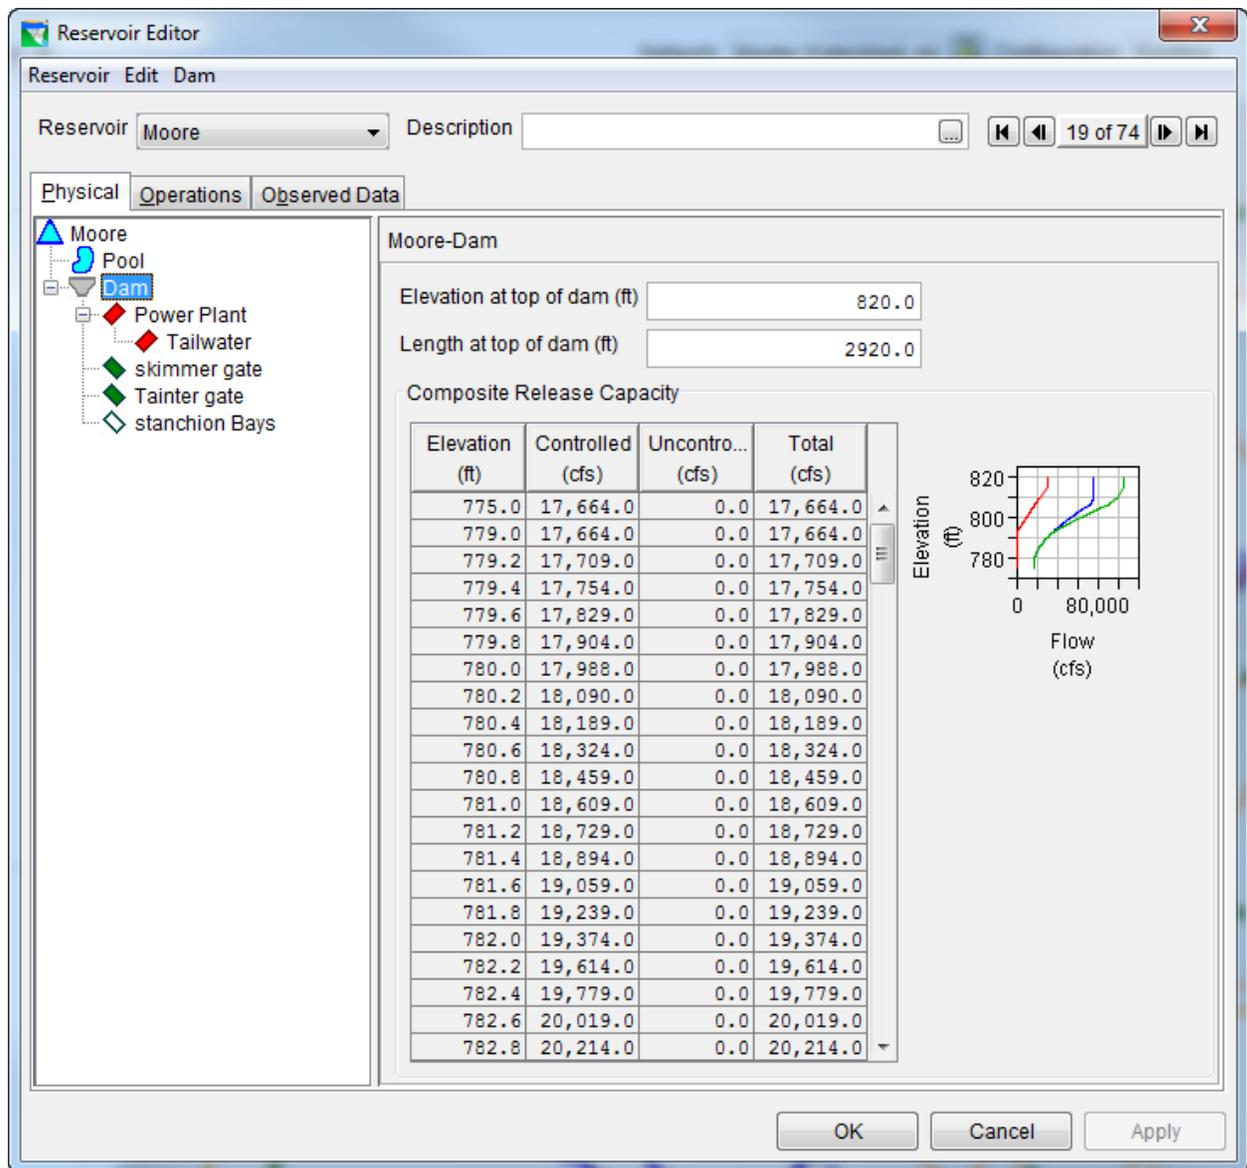

Figure 4: Reservoir Editor: Physical Tab -- Dam
The physical characteristics of the reservoir are separated between the Pool and the Dam in the HEC-ResSim model. The elevation-storage-area defines the pool as shown in Figure 366. The dam consists of an uncontrolled spillway and outlet as shown in Figure 467.
The physical characteristics of the reservoir are separated between the Pool and the Dam in the HEC-ResSim model. The elevation-storage-area defines the pool as shown in Figure 368. The dam consists of four types of outlets: (1) controlled skimmer gate, (2) controlled tainter gate, (3) uncontrolled stanchion Bays, and (4) power plant as shown in Figure 4.